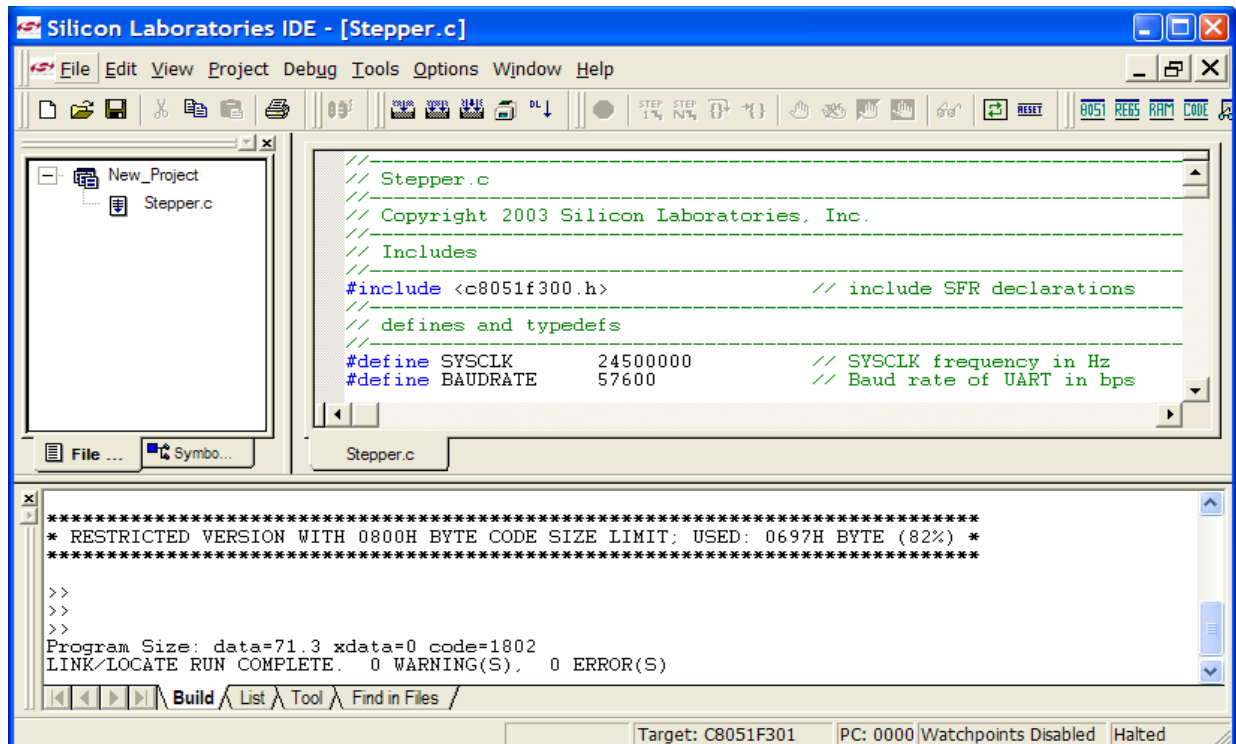

Figure 8. Stepper Motor Project
5. Select "Rebuild All" from the project menu or click on the "Rebuild All" button. (The IDE will compile and link the stepper.c file as shown in Figure 8.)